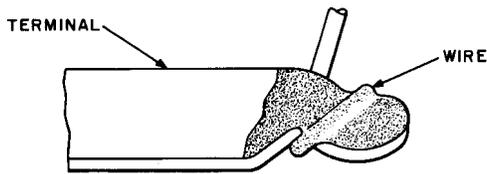

Fig. 6—Example of Properly Soldered Connection
**7.03** Only a small amount of solder is needed to make the joint illustrated in Fig. 6, which shows a thin coat of solder spread smoothly over the wire, completely covering it. The use of too much solder results in a lumpy connection which may cause trouble.